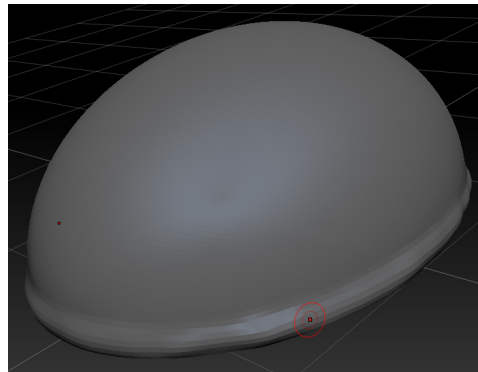

Figure 3-57 Depth added to the lower part of the turtle shell using the **Standard** brush
11. Press and hold the left mouse button and drag the cursor on the lower part of the *turtle shell*; the depth is added to the lower part of the shell, as shown in Figure 3-57.